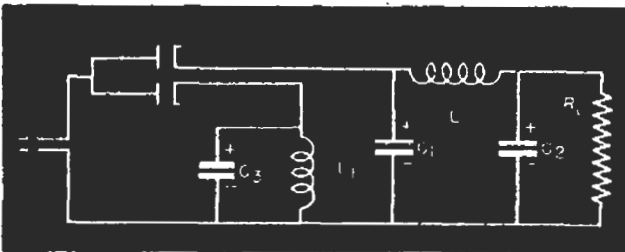
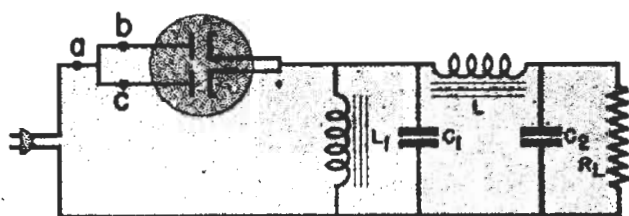

FIG. 2. The speaker field is energized from a separate diode here.
FIG. 3. The diode elements are in parallel, so have a greater current safety factor.
A circuit which does this is shown in Fig. 2. Here, a dual diode tube is employed. (Separate diodes could be used, if desired.) One diode is used as a half-wave rectifier for the load  $R_L$ ; the other acts as a rectifier to supply the speaker field, marked  $L_1$ , which acts as the load for this tube section. The filter condenser  $C_3$  provides sufficient filtering for the field. The other filter  $C_1-L-C_2$  is a standard condenser-input filter, used to deliver pure d.c. to the load  $R_L$ .
► As you know, the input filter condenser draws a rather high current from the rectifier tube until the condenser is fully charged. As a result, in the circuit shown in Fig. 2, each of the rectifier tube sections undergoes considerable strain when the circuit is first turned on. Fig. 3 shows how the circuit can be changed to relieve some of this strain and save one filter condenser at the same time.
Here the two cathodes of the rectifier tube sections are tied together, as are the plates. This lets us use the current capacity of the two diodes (which are now in parallel) to charge condenser  $C_1$ , thus reducing the current each tube section must carry. The speaker field  $L_1$ , in parallel with  $C_1$ , is connected directly across the output of the rectifier. Enough filtering is produced by  $C_1$  for the field supply.  $C_1$  thus takes the place of condenser  $C_3$  in Fig. 2, and at the same time acts as the input filter condenser for the filter  $C_1-L-C_2$ .
**Tube Protection.** As you already know, a large input condenser draws a high peak current from the rectifier tube. When a transformer is used, the resistance of the high-voltage winding limits the current through the rectifier tube to some extent; but the power line current in Fig. 3 is limited only by the fuses in the house wiring, which may have ratings as high as 25 amperes.
were ruined by excess peak current \* before receiver manufacturers hit upon the idea of placing a resistor in series with the plates of the tubes. A single resistor of from 20 to 30 ohms may be placed in series with both plates at point *a* of Fig. 3, or a 50-ohm resistor may be placed in series with each plate at points *b* and *c*.